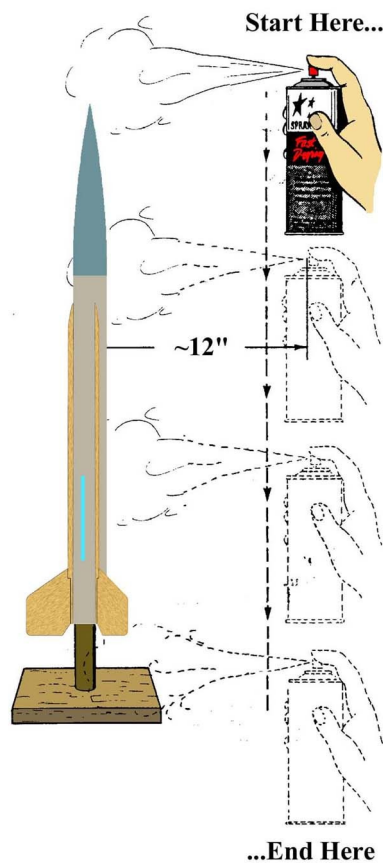

Figure 9
- **Step 18** The illustration in Figure 9 shows the correct method to spray your model, regardless of the equipment used. Always spray from the top down. Never try to spray from the bottom up, or from side-to-side. This applies to primer, paints, and the clear coat final layer.